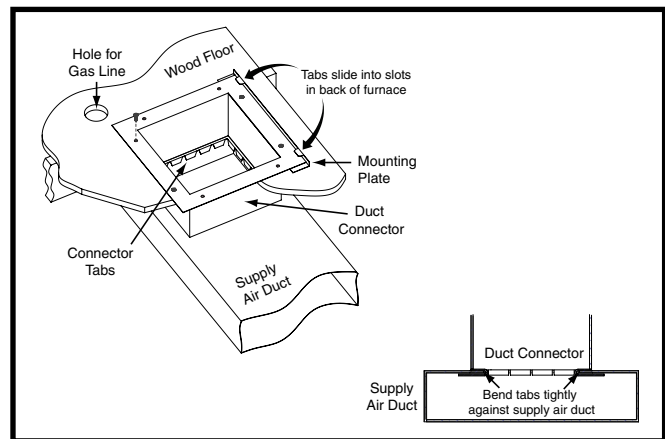

Figure 11. Finger Tabbed Duct Connector
3. Remove the duct connector and cut out the marked area of the supply air duct 1/16" larger the actual cutout drawn. See Figure 11 (page 16).
5. Install the mounting plate (Figure 11) under the back side of the duct connector. Align the screw holes in both components.
7. Bend the connector tabs on the bottom of the duct connector upwards and as tight as possible against the supply air duct. See Figure 11.